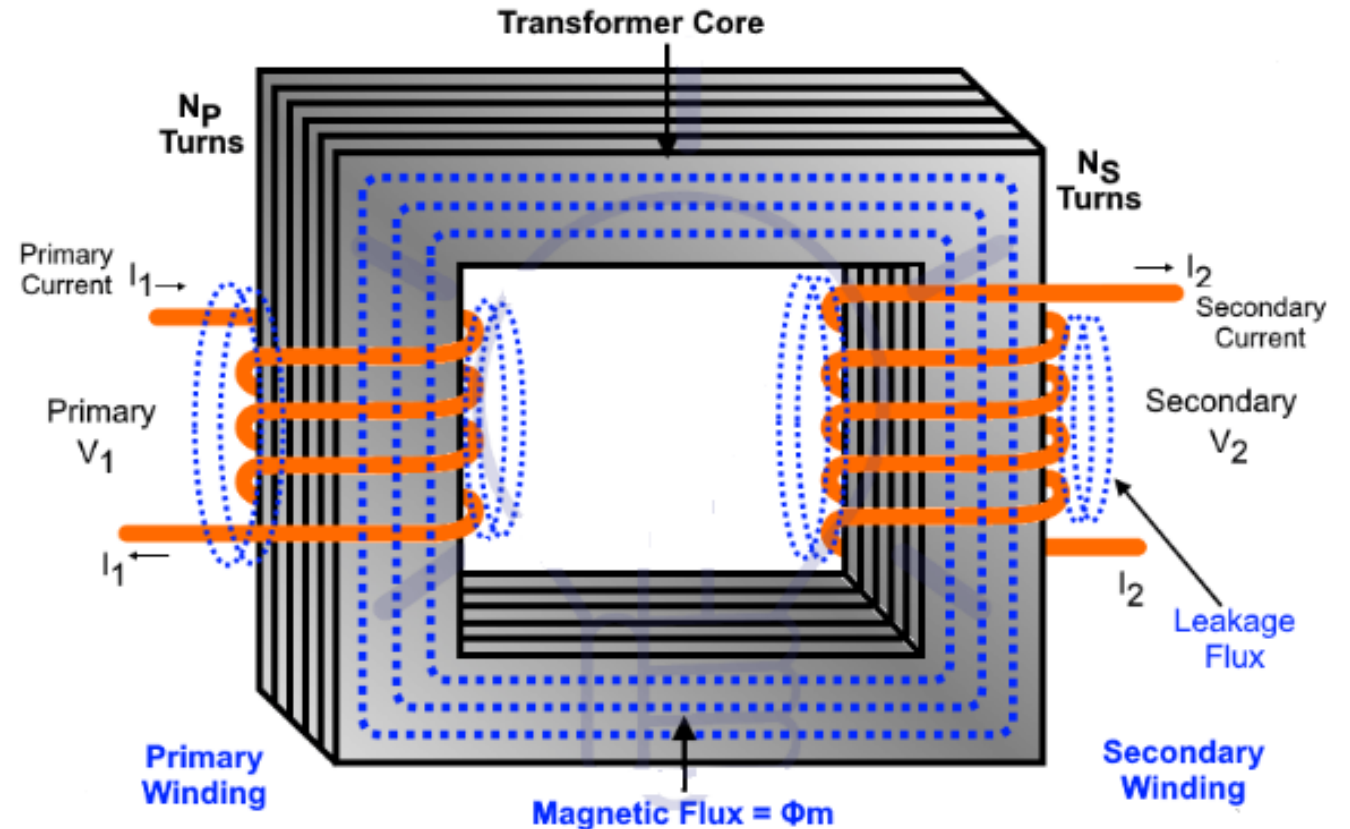

Fig. 8.3
- ✓ The coupling magnetic field allows the transfer of energy in either direction, from high-voltage to low-voltage circuits or from low-voltage to high-voltage circuits as shown in **Fig. 8.3**.